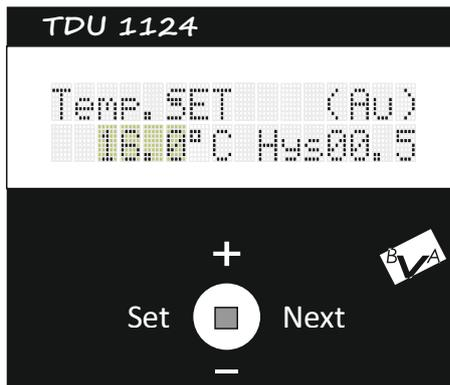
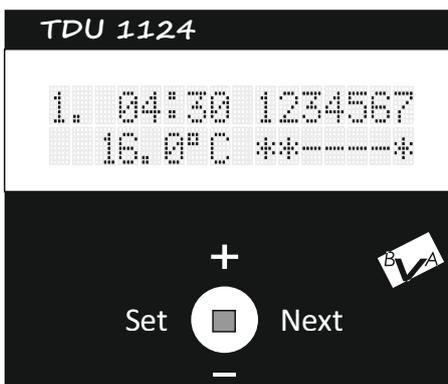

fig.5
fig.7
1. Temperature setting. From the "temp set" screen, see fig.5, press the (SET) key, the temperature value will be displayed intermittently. With the + and - keys, change the value, this will be the temperature setpoint. Go ahead with the (SET) key and choose the thermostat operating mode, (automatic or manual) see fig.7.
From the (temp set) screen, press the next key and the first program will appear on the screen. fig.7.